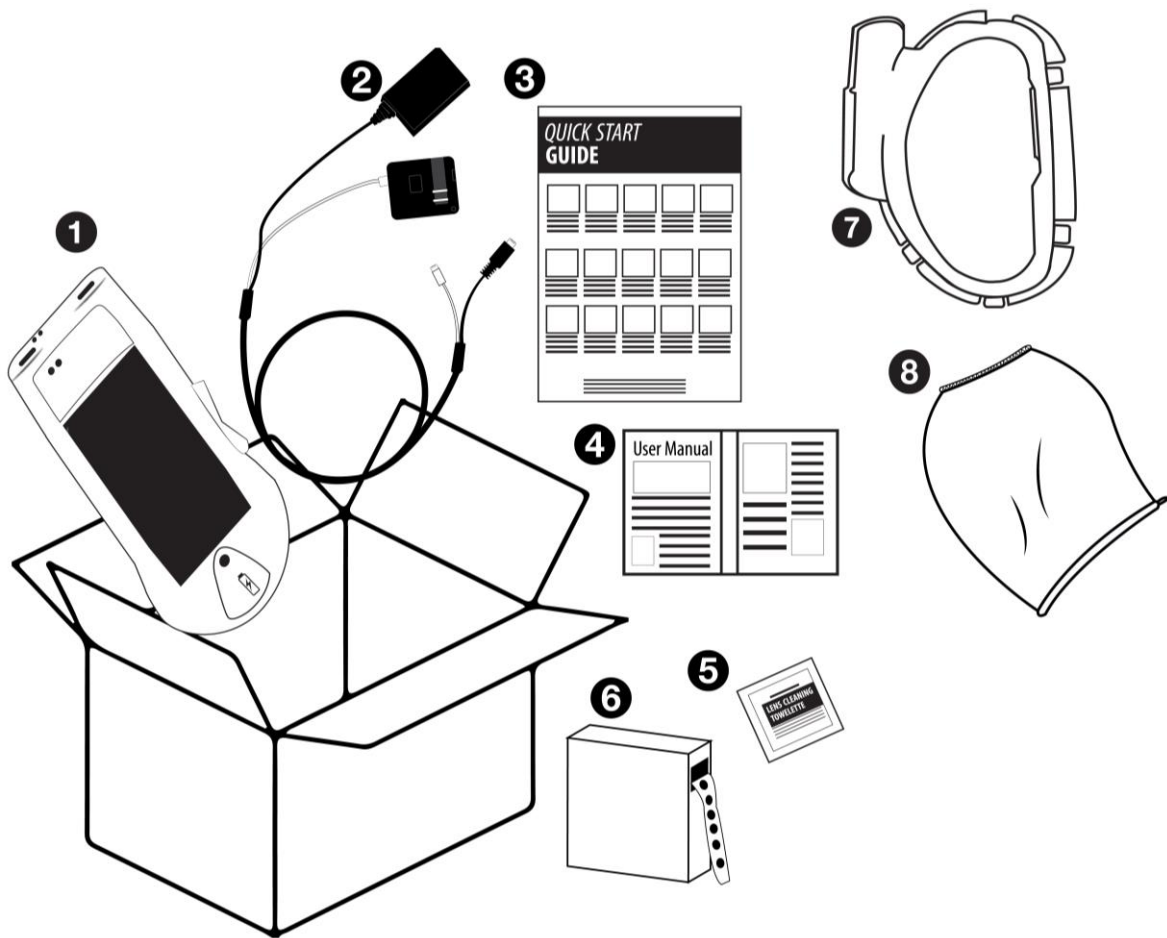

Figure 1: MolecuLight *i:X* Imaging Device and its components
The MolecuLight *i:X* Imaging Device comes fully assembled and ready for use. The standard system configuration includes items 1-6 illustrated in Figure 1 and detailed in Table 6 below. These items allow the MolecuLight *i:X* Imaging Device to be used in a patient care setting.
Note The MolecuLight DarkDrape and MolecuLight Adapter (Figure 1, items 7-8) are not part of the MolecuLight *i:X* System configuration. They are optional accessories that may be ordered separately.